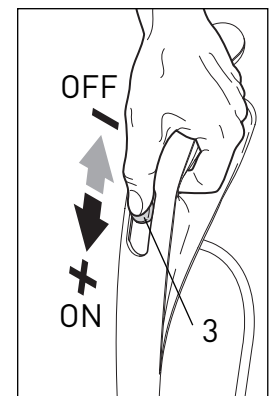

Figure 5
4. Slide the On/OFF switch (3) downward to the ON position - see figure 5.
Operating the Machine - Figures 5 & 6
You may adjust the suction control with the suction control slider (3) as you vacuum different surfaces or when using the accessory tools. Slide the button upward for less suction or downward for more suction - see figure 5
You may adjust the suction control with the suction control slider (#3, figure 5) as you vacuum different surfaces or when using the accessory tools. For optimal cleaning and brushing, operate the machine at the maximum suction power setting and push the power head slowly over the carpet.